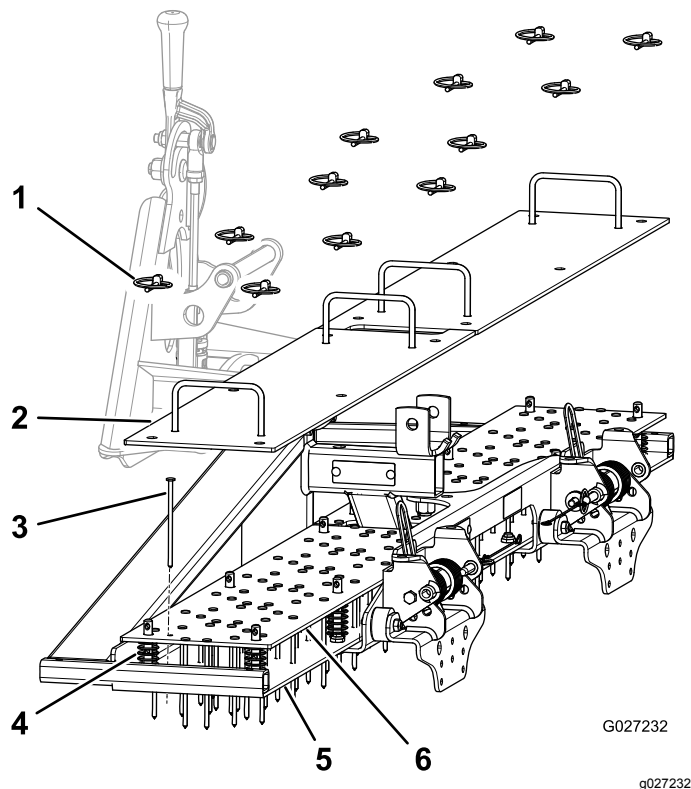

Figure 8
1. Install the nail plates (Figure 8).
2. Install the nails (Figure 8).
3. Install the top plates (Figure 8).
4. Move the top plates to the preferred position, and install the lynch pins (Figure 8).